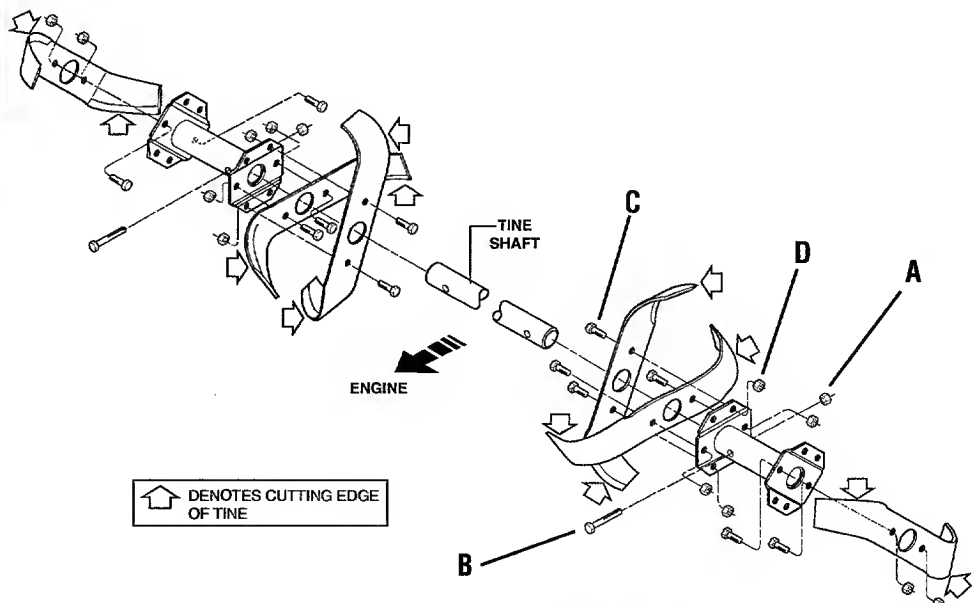

Figure 5-7: Complete tine assemblies— holders, tines and hardware.
This is a CRT (counter-rotating tine) tiller and its tines must be mounted in the direction shown in Figure 5-7. If mounted with the curves in the opposite direction, the tiller will dig poorly and be more likely to run backward.
1. Use a 9/16" socket, 6" extension, a ratchet, and a 9/16" box wrench to loosen the nut (A, Figure 5-7) and bolt (B) that secure the tine holder to the tine shaft.
1. Use two 9/16" box end wrenches to remove the two bolts (C, Figure 5-7), and nuts (D) that secure the tine to its tine holder. See Figure 5-7.